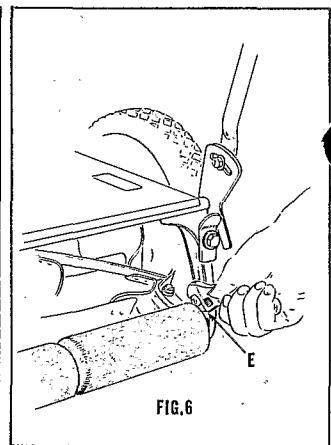

FIG.6
4. Be sure roller is adjusted to the same height on both sides, roller brackets "B" have gauge marks for this purpose. Then tighten the carriage bolt nuts firmly (Fig. 6 "E"). To determine exact cutting height, simply measure the distance between the ground and the cutting surface on the bed knife. A setting between one and two inches is recommended during hot weather. If you have a "Creeping Bent" lawn, consult your local Toro Distributor.